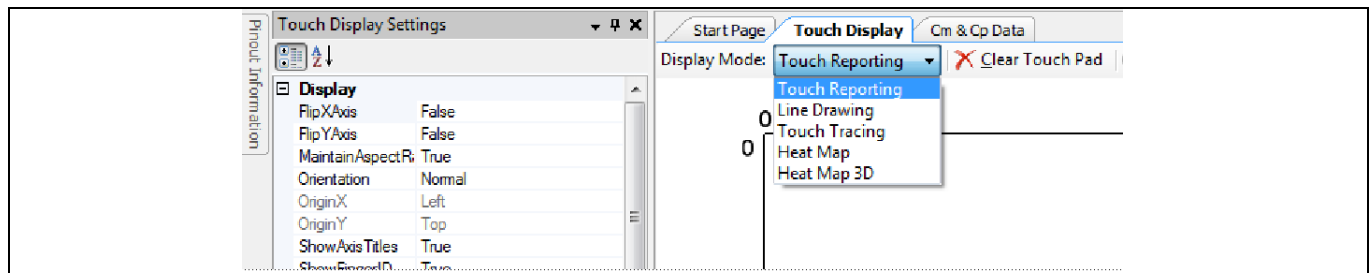

Figure 16 Display Mode - Touch Reporting Selection
16. Select **Touch Reporting** in the Display Mode drop down menu as shown in **Figure 16**.